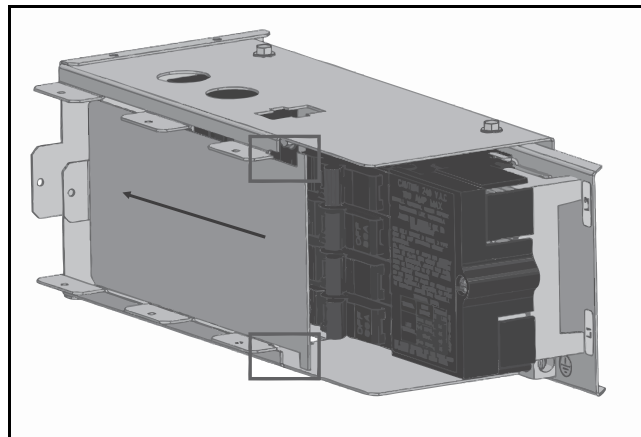

Fig. 45 E-Heat Control Box Cover
7. Cover the e-heat control box by sliding the cover and fastening with one screw. (→Refer to Fig. 45.)